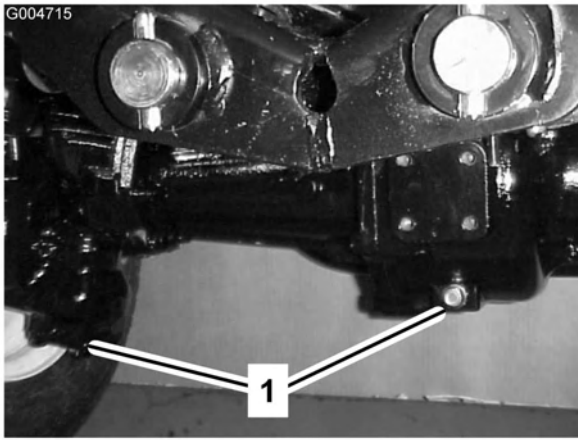

Figure 58
2. Clean the area around the 3 drain plugs; 1 on each end and 1 in the center (Figure 58).